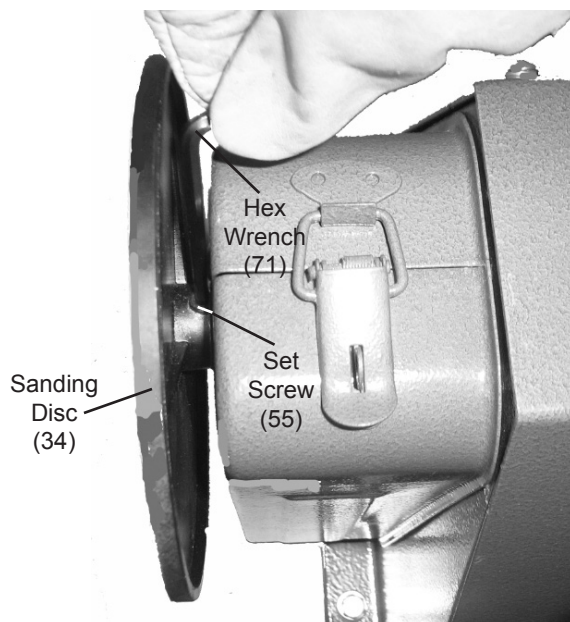

Figure 3
3. To attach Sanding Disc (34), align flat Set Screw (55) at the back of Sanding Disc with the flat face of Spindle and then slide Disc over Spindle. Then use Hex Wrench (71) to tighten Set Screw. See Figure 3, below.